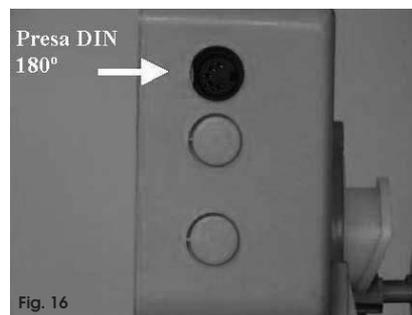

Fig. 16
- Il controller è inibito. Se si sta usando la presa DIN (Fig. 16), verificare che dentro la calotta del connettore non ci siano corti circuiti fra i morsetti.
In fig. 16 è visibile la presa DIN 180° dove è possibile connettere la sonda contaltri.
The installation of the controller must be effected by qualified personal; the procedures of installation must be performed with the controller disconnected from power supply. The controller is composed of a box in ABS, closed frontally from a plate fixed with 4 screws and protected with a transparent cover. The controller is powered with a transformer 230 / 12 Vac. Other type of transformers are available on demand. (Es. 115 / 12 Vac - 60 Hz). If the Aqua Timer is in the Chronometric version, the right side of the box is opened in correspondence of the plug DIN 180° (Fig. 16). If the Aqua Timer is in the Volumetric version, on the back side of the box there is the cable of the water meter cable that must be inserted in the special lodging on the valve or on the SIATA turbine (Fig. 17).